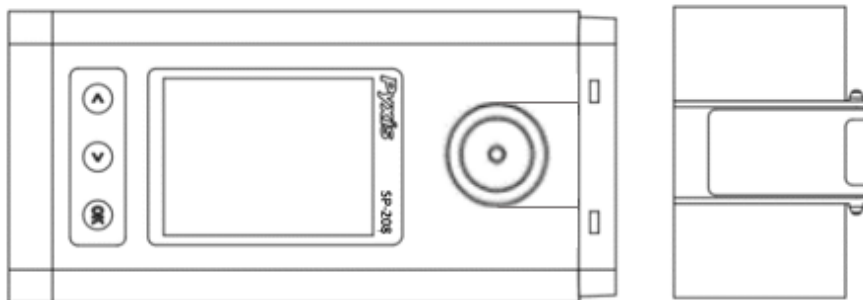

Figure 3
3. Attach the **pH/ORP** module to the main module as shown in Figure 3.